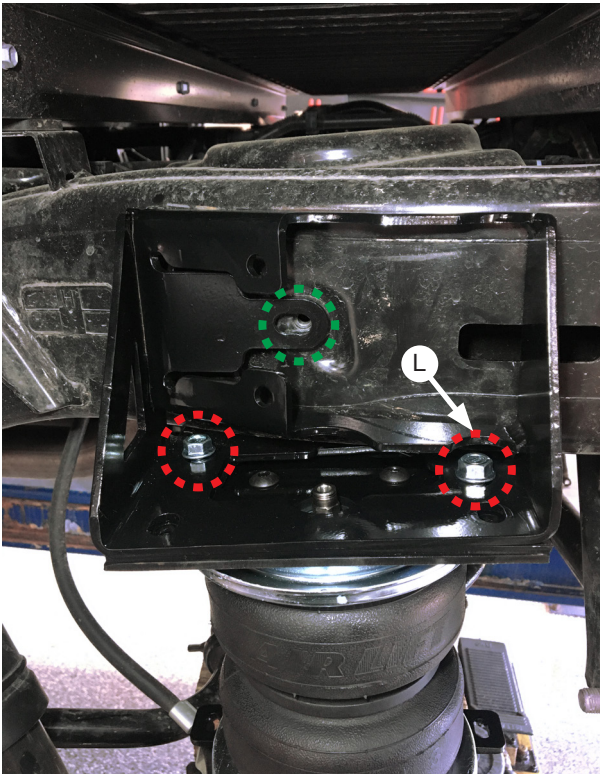

Fig. 17
2. Once each assembly is in place, thread two serrated nuts (L) onto the two short carriage bolts (K) from step 2 of the *Assembling the Air Spring Assemblies* section, but leave them loose at this time (Fig. 17). Install an M8 flanged bolt (S) through the upper brace into the frame (circled in green) (Fig. 17) and torque to 18 lb.-ft. (24Nm). Torque the two serrated nuts (circled in red) to 16 lb.-ft. (22Nm) (Fig. 17).